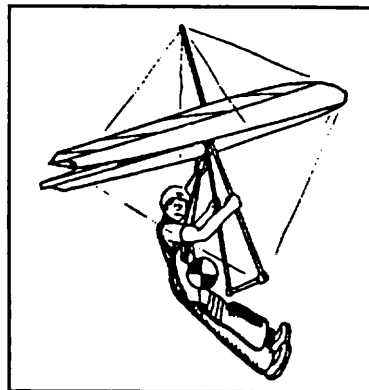

Figure 54
b) Improper body position - pilot leaning back, (away from the anticipated hard landing), with feet extended in front. (Figure 54) This moves the pilot's center of mass forward ahead of his shoulders, effectively shortening the pilot's arms and reducing flare authority. The proper position is with the pilot's body inclined forward, with the shoulders out ahead of the pilot's center of mass. Thinking about pushing "up" instead of "out" when flaring may help you to maintain the proper forward inclined body position.